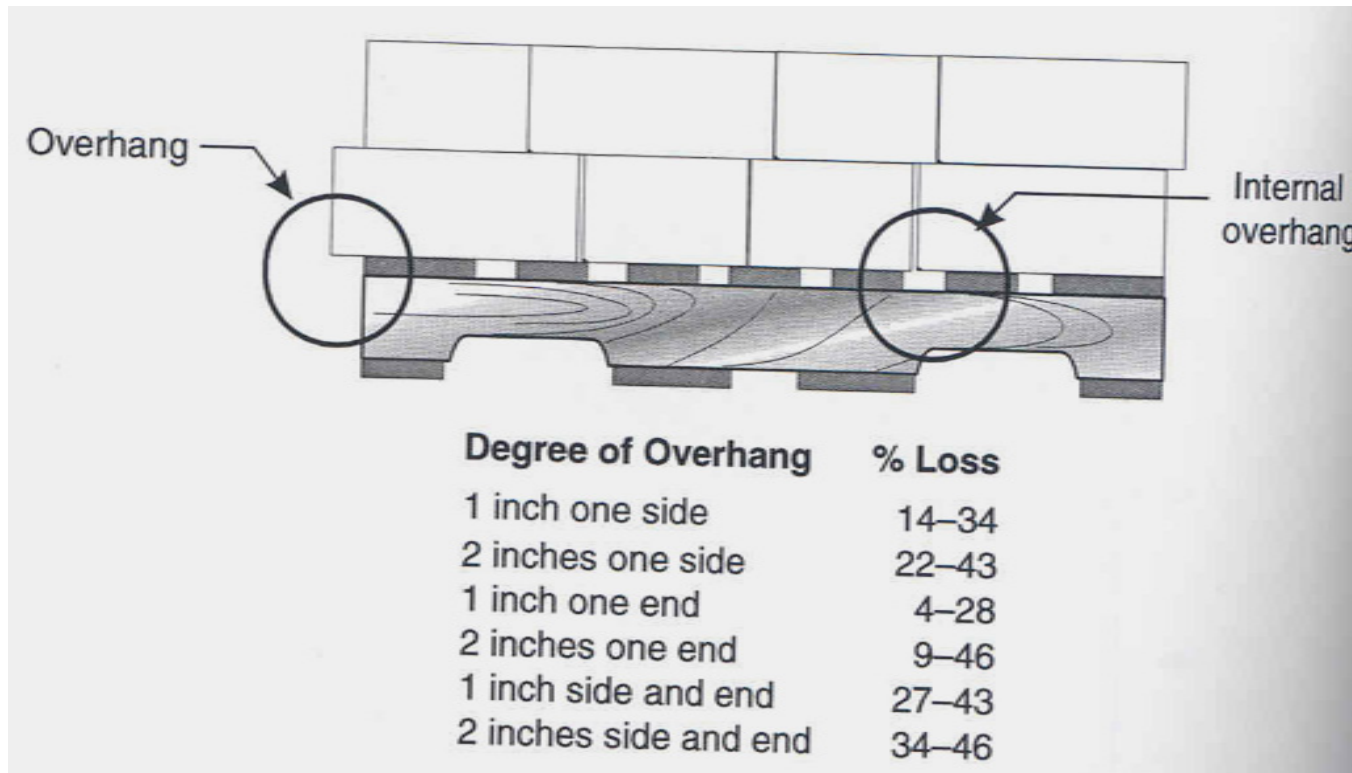

Figure 12.14 Effect of overhang on compression stack strength
- Pallet overhang is often deliberate but is rarely a good idea. Inadvertent overhang can occur internally because of pallet board geometries relative to the container size. Typical loss of available compression strength to overhang is shown in Figure 12.14.